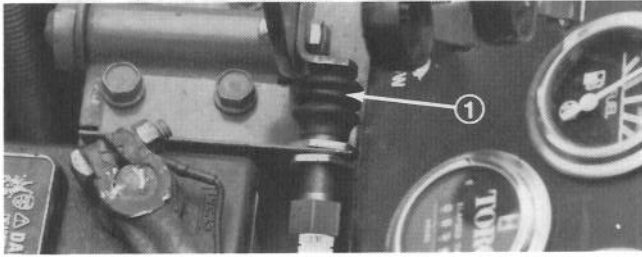

Figure 41
3. Remove boot from button end of PTO switch (Fig. 41). Retain boot for reinstallation. Separate switch wire connectors.